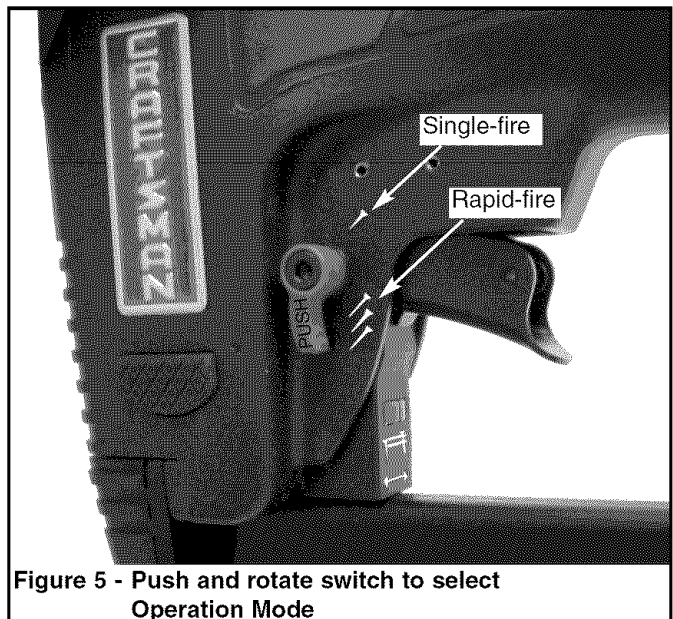

Figure 5 - Push and rotate switch to select Operation Mode
Refer to Figures 5, 6, 7 & 8 (pages 4 and 5).
- The tool is equipped with a rotating switch that can be set to rapid-fire or single-fire mode (see Figure 5). When the switch is set to single-fire mode, the tool will not drive a second fastener until the trigger is fully released and pulled again.